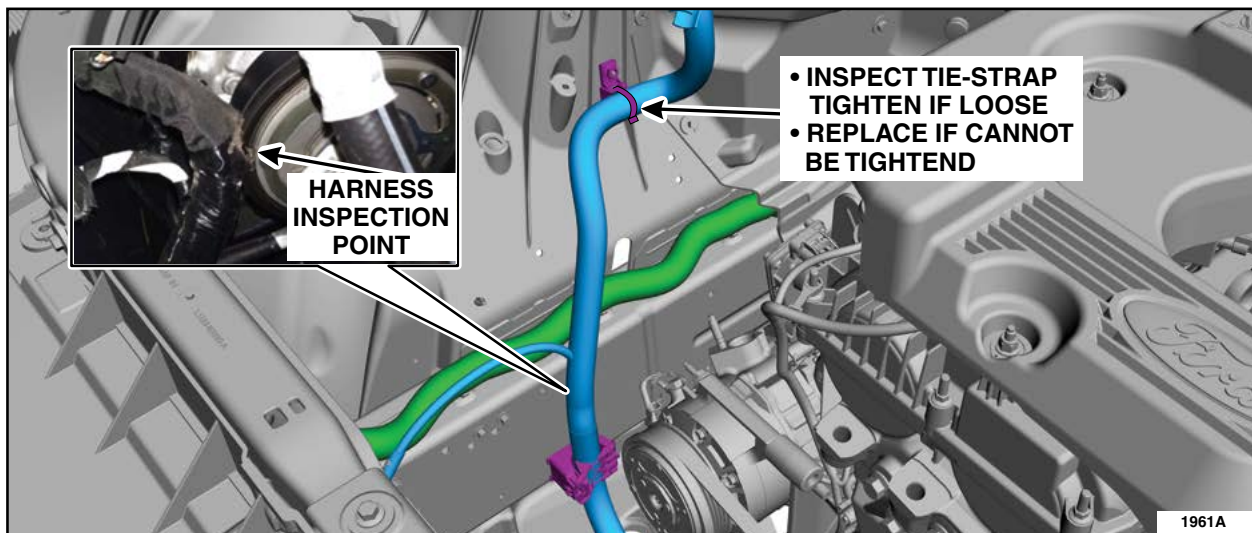

FIGURE 1
1. Inspect the battery positive cable wire harness in the areas shown for damaged and exposed wire. See Figure 1.
2. Inspect the tie-strap located on the passenger side strut tower. Tighten the tie-strap to properly retain the harness. See Figure 1.